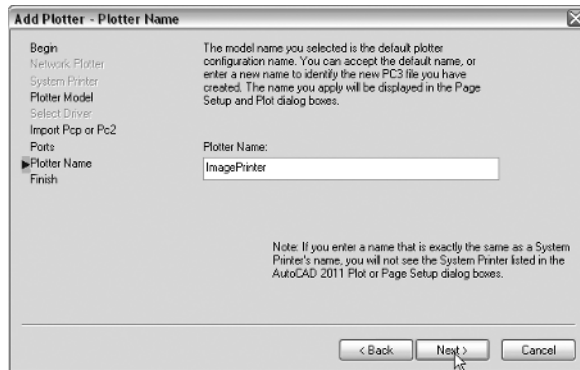

Figure 1.5 Naming the plot driver
7. Click Next again and type **ImagePrinter** as the Plotter Name (Figure 1.5).